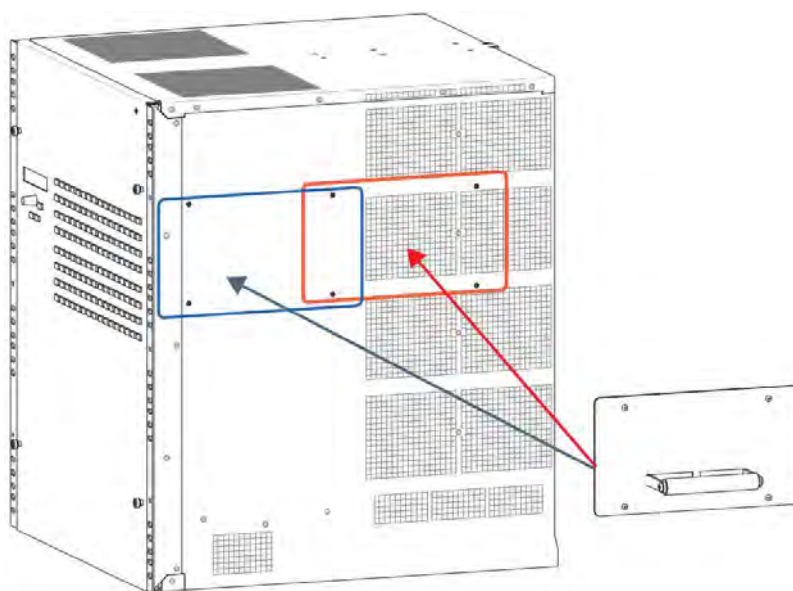

FIG. 15 DGX-6400 Lifting Handle Position Options
6. Attach the two provided Lifting Handles, using either the front or rear position as indicated in FIG. 15. Be sure to tighten down all four screws securely on both handles.